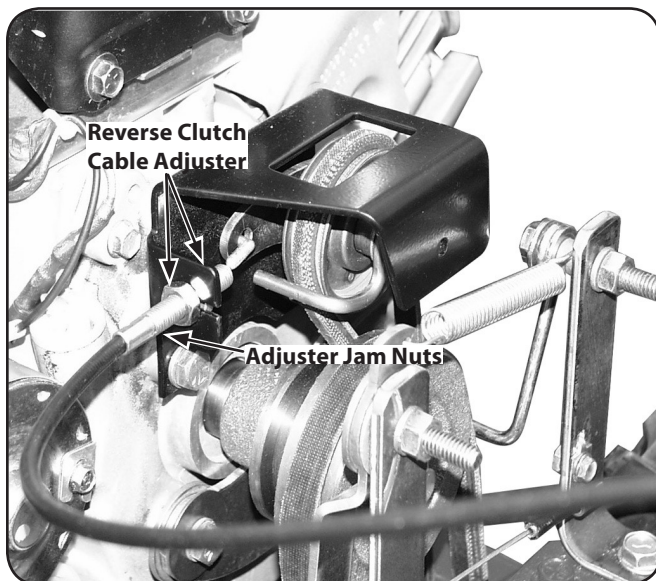

Figure 6-9
3. Reverse belt tension adjustments are done with the reverse clutch cable adjuster located on the left side of the machine near the engine. See Figure 6-9. Use two ½" open-end wrenches to loosen the two adjuster jam nuts a few turns.